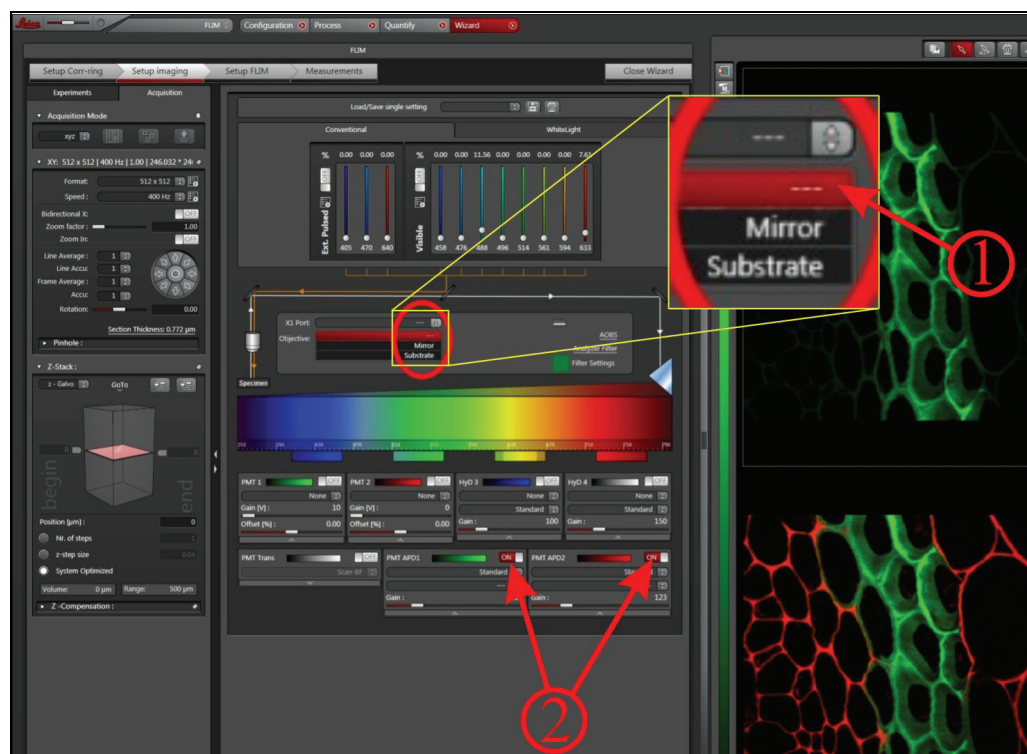

Figure 115: Acquiring the reference image using APDs
2. Set **X1 Port** in **Beam Path Settings** in the working area to --- (Figure 115, item 1).
4. Activate the APDs by clicking the corresponding buttons (**Figure 115, item 2**).